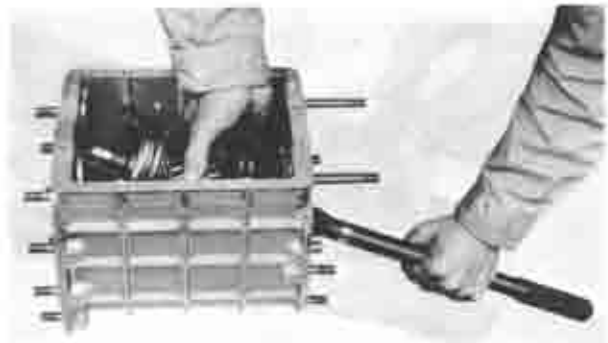

Fig. 7-8 Removing main shaft and gear assembly
30. Take out the main shaft and gears assembly from the case, as shown in Fig. 7-8.